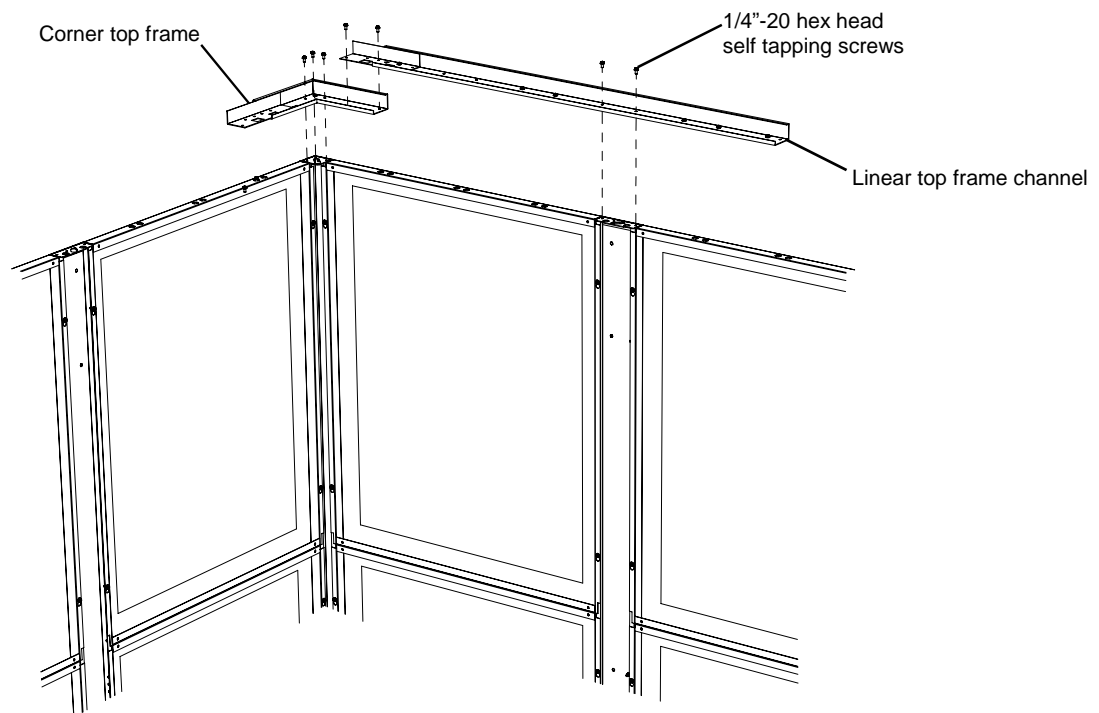

Figure 8
1. Assemble the top frame sections to the top of the cage wall, working from right to left (as viewed from outside the cage). Start by assembling a corner top frame to the top of the right hand corner post using (3) 1/4-20 x 1/2" hex head self tapping screws. See figure 8.
2. Add linear top frame channels as required so that the last section falls 1 foot short of the left end of the cage wall. Fasten the linear sections to the top of each linear post with (2) 1/4-20 x 1/2" hex head self tapping screws. Also fasten each splice between adjoining top frame sections with (2) 1/4-20 x 1/2" hex head self tapping screws. See figures 8 and 9.